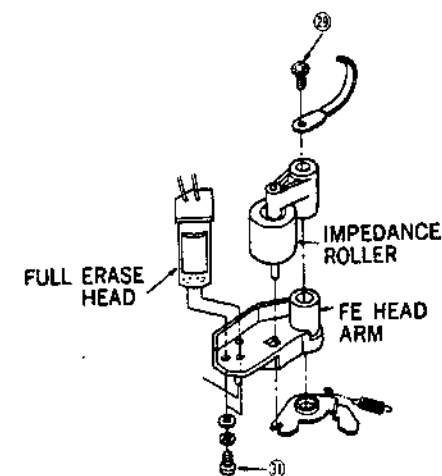

Fig. 30
② 1 screw. (Fig. 30)
- 2) ② 2 screws. (Fig. 30)